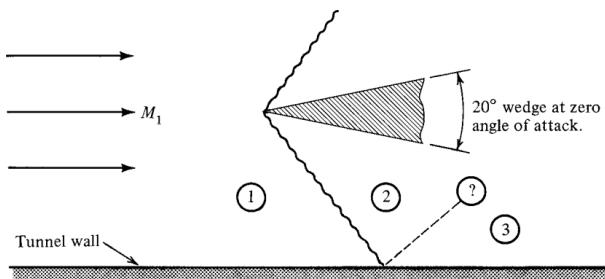

Figure P7.15
- 7.15** For the flow situation shown in Figure P7.15,  $M_1 = 1.8$ ,  $T_1 = 600$  °R,  $p_1 = 15$  psia, and  $\gamma = 1.4$ .